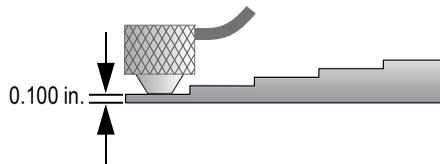

Figure 5-6 Sound velocity calibration on a five-step test block – Thin part
- b) Couple the transducer to the thin part of the test block (see Figure 5-6 on page 54), and then press [CAL ZERO].